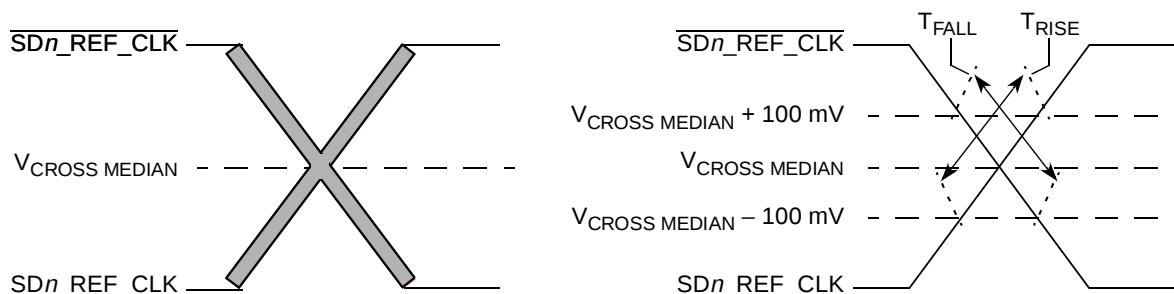

Figure 50. Single-Ended Measurement Points for Rise and Fall Time Matching
4. Matching applies to rising edge rate for $\overline{SDn_REF_CLK}$ and falling edge rate for $\overline{SDn_REF_CLK}$. It is measured using a 200 mV window centered on the median cross point where $\overline{SDn_REF_CLK}$ rising meets $\overline{SDn_REF_CLK}$ falling. The median cross point is used to calculate the voltage thresholds the oscilloscope is to use for the edge rate calculations. The rise edge rate of $\overline{SDn_REF_CLK}$ should be compared to the fall edge rate of $\overline{SDn_REF_CLK}$, the maximum allowed difference should not exceed 20% of the slowest edge rate. See Figure 50.